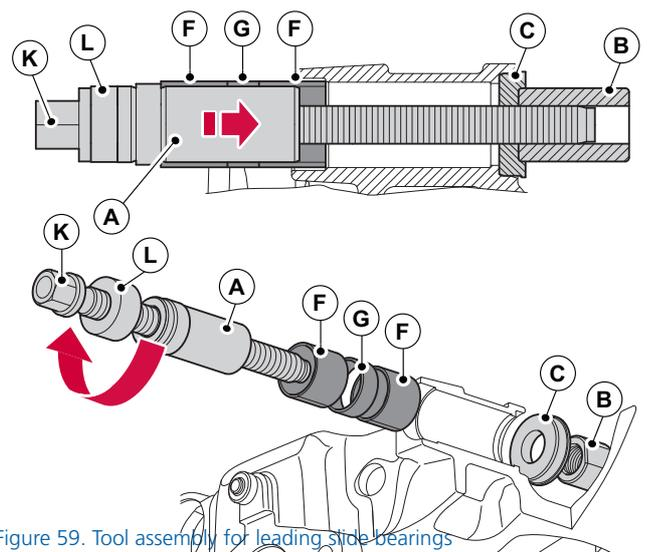

Figure 59. Tool assembly for leading side bearings
- To install the two new bearings (F) and the new spacer (G) on the leading side, assemble in sequence Haldex special tool P/N's 95230 (K), 95423 (L), 95219 (A), 95221 (C) and 95220 (B), preloaded with the new parts, as shown in figure 59.
- Once fitted correctly, turn the threaded tool clockwise which will pull into position the two bearings (F) and spacer (G) complete.